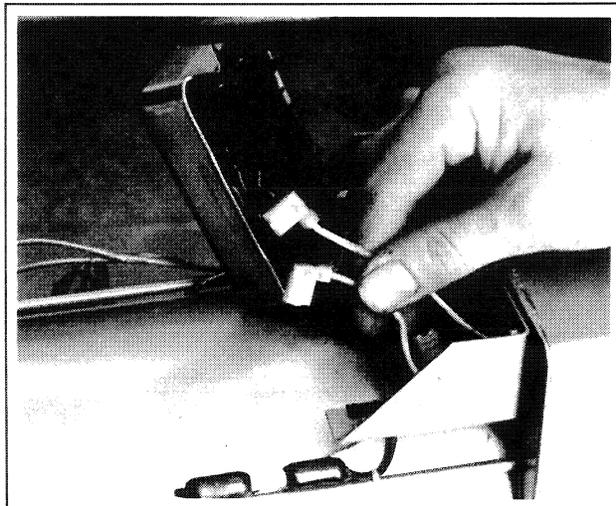

Figure 2-12. Removing Regulator
3. Unscrew regulator from mounting, Figure 2-12. Disconnect lead from regulator and remove.